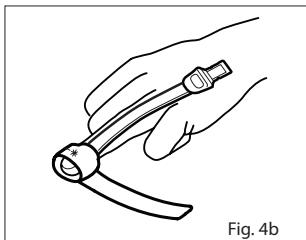

Fig. 4b
- Refer to Fig. 4b. Wrap the adhesive wrap around the finger so the emitter window (*) aligns on the top of the finger directly opposite the detector. Complete coverage of the detector window is needed to ensure accurate data.